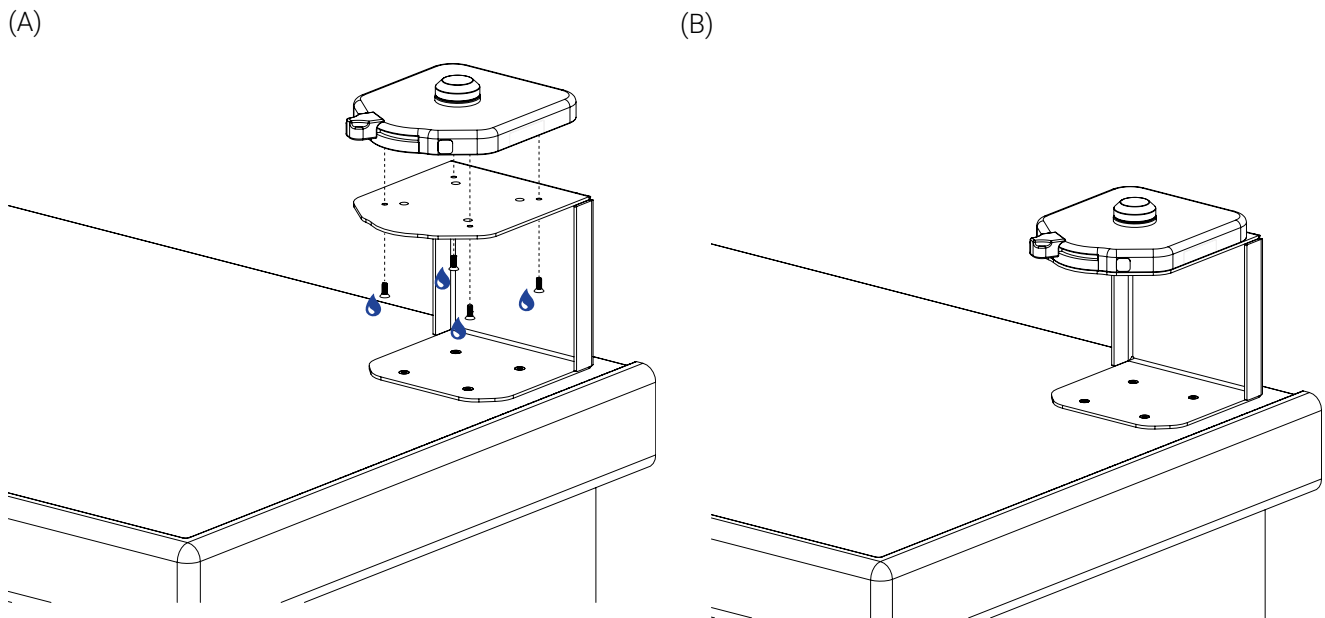

Figure 16: Installation of the Universal Mounting Base on the Flex Adapter Shelf
9. Align and place the Universal Mounting Base on the top plate of the Flex Adapter Shelf, then tighten the four (4) 10-32 in. X 1/2 in. L flat head screws coated with medium strength thread lock adhesive (🔩) from under the top plate in a cross-pattern using a Phillips-head screwdriver #2 (Figure 16).